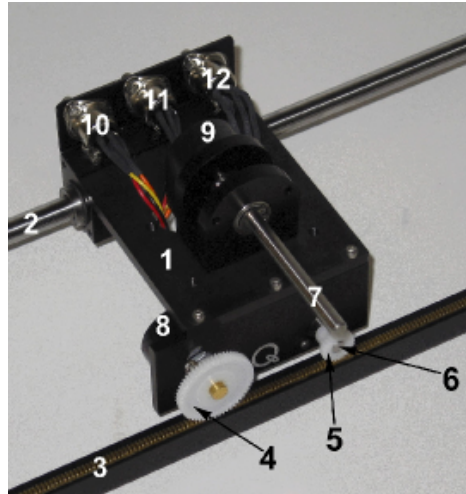

Figure 4: Quanser IP02 cart
Figure 4 shows a picture of the cart used in the lab setup for the pendulum experiments. The main components are the Cart motor pinion (5) with attached 6V DC motor and gearbox (not visible in the figure), the Cart position pinion (4) with attached encoder (8) and the pendulum axis (7) with attached encoder (9). **Warning:** The motor pinion is the weakest part of the setup and can easily be damaged by high torque values, so be careful when running a controller on the hardware. Always start with less aggressively tuned controllers first if possible.